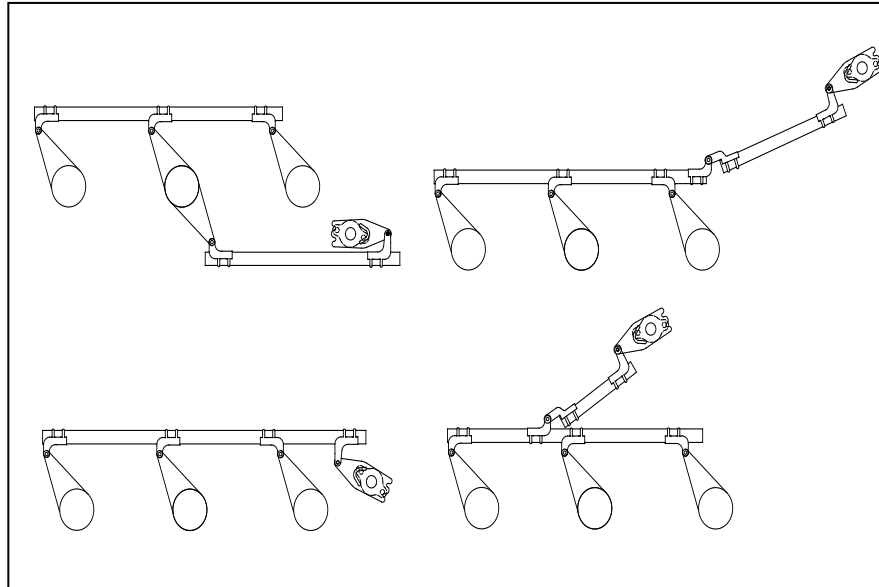
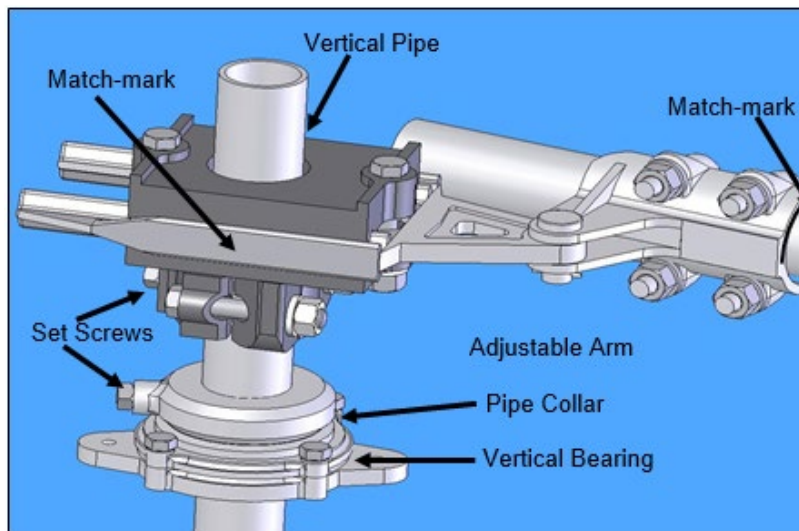

Figure 7: Typical Operating Pipe Arrangement
Figure 8: Typical Operating Arrangement
2. Use the Op-Mech Drawing to install mounting brackets, bearings, bushings, pipe clevises, manual operating device, Adjustable Arm, and other components - **Figure 7** and **Figure 8**.